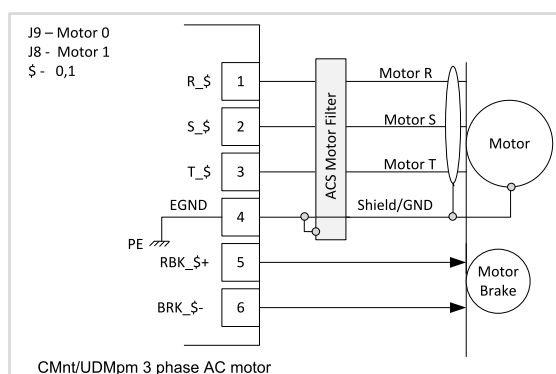

Figure 4-18. Three-phase motor connection
A three-phase motor connection is depicted in Figure 4-18. An optional motor filter is shown in series between the drive and the motor. Use a shielded cable, terminated in the EGND pin which is internally connected to the chassis (PE). If needed, the shield/GND may be connected to the motor's chassis to provide a seamless common ground reference.